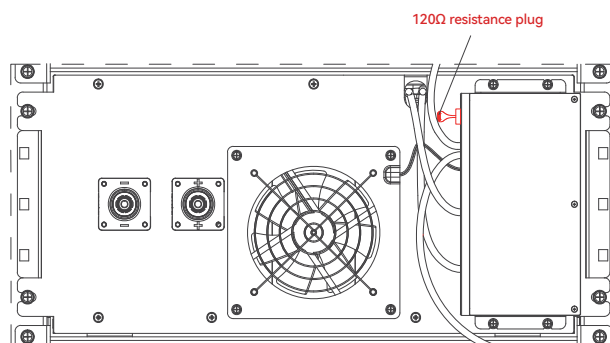

Figure 2.13
(9) The last battery box BMU output communication port has a 120Ω resistance plug (Figure 2.13).